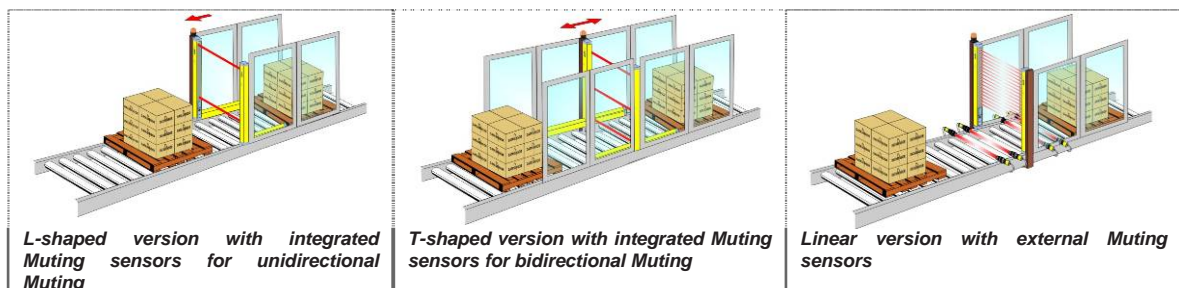

Fig. 39 – Examples of muting application
- The Muting function excludes the light curtain during functioning, maintaining active the OSSDs' outputs, according to particular operating requirements (Fig. 39).